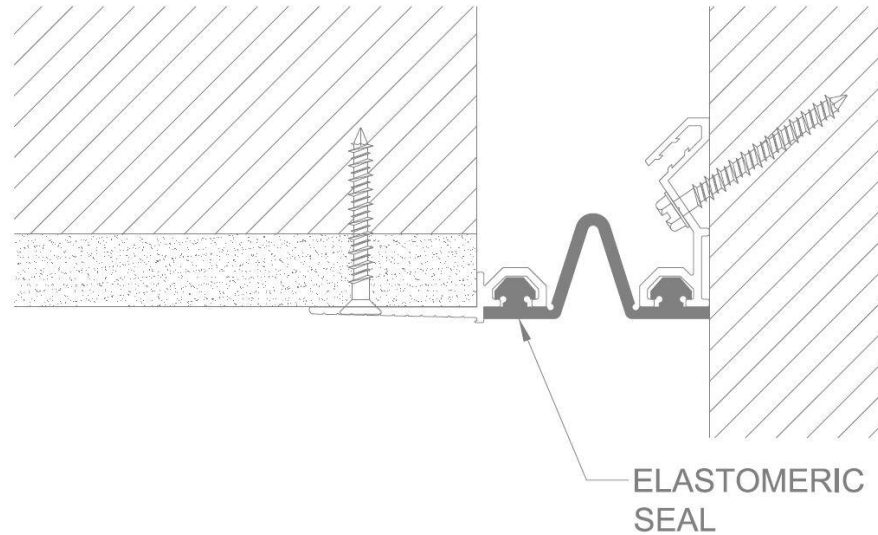

FIGURE 5
2. Position the elastomeric seal into position and push the seal bulbs into the base frame and wall frame top channels as shown. Make sure the bulbs are seated all the way into the channel. Do not stretch the seal lengthwise during installation. **See Figure 5.**